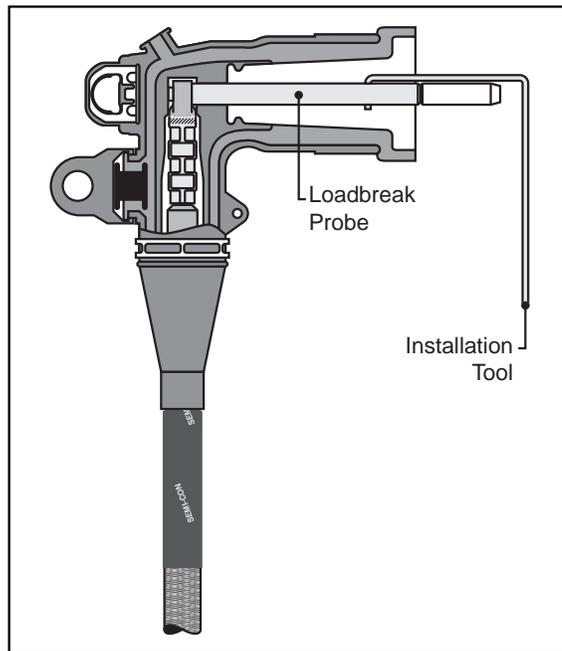

Figure 12
- 6.4 By hand, carefully thread loadbreak probe into threaded eye of connector. When tight, use the installation tool provided to properly torque the probe. Proper torque is applied when the tool achieves a 180° permanent set. (Figure 12.)